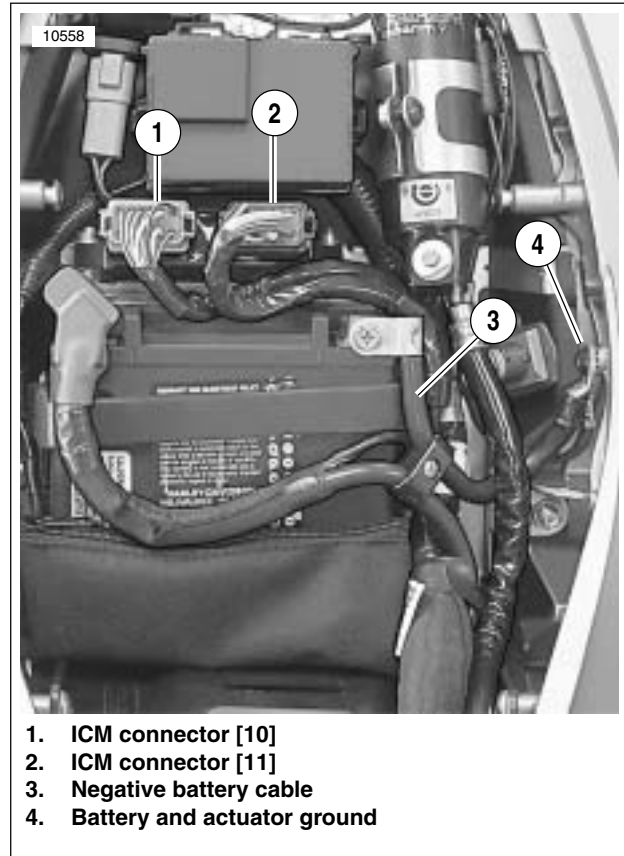
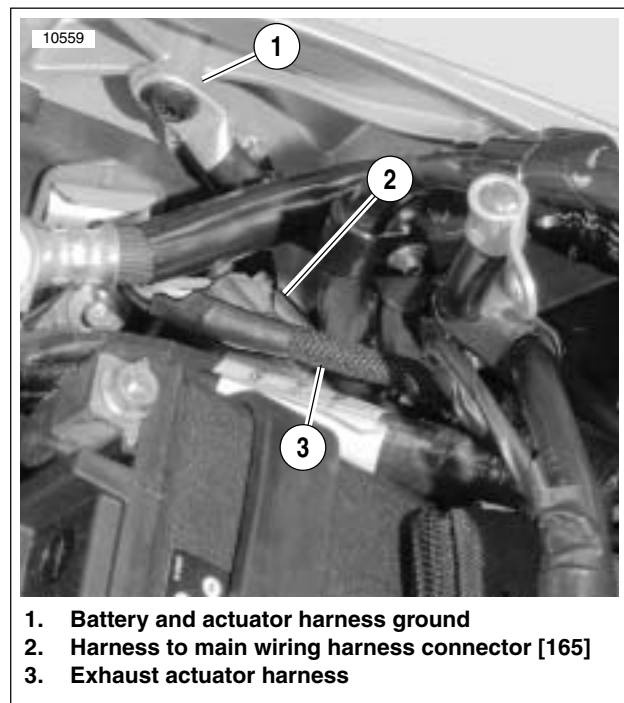

Figure 7-87. Harness and Cable Routing
Figure 7-88. Exhaust Actuator Harness Connector [165]
3. See Figure 7-87. Remove negative battery cable (3) from battery. See 7.11 BATTERY.
5. Remove main battery ground and the exhaust actuator ground (4).
6. See Figure 7-88. Separate exhaust actuator harness connector [165] (2) at main harness.